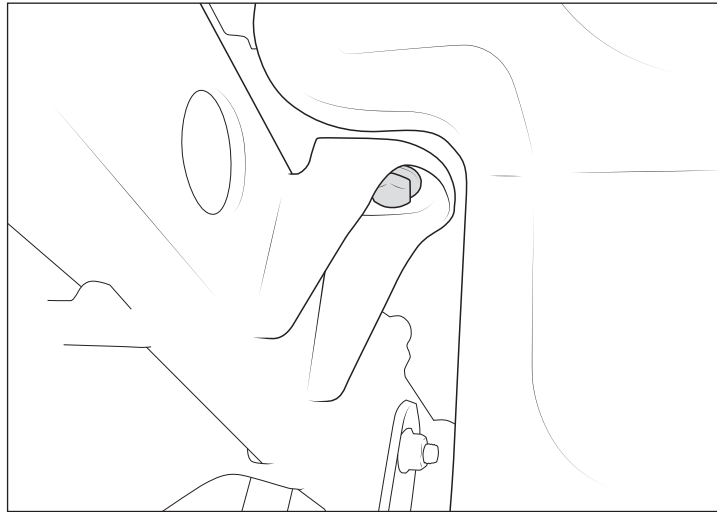

Figure 8
A. Remove rear bed mount bolts (fig 8).